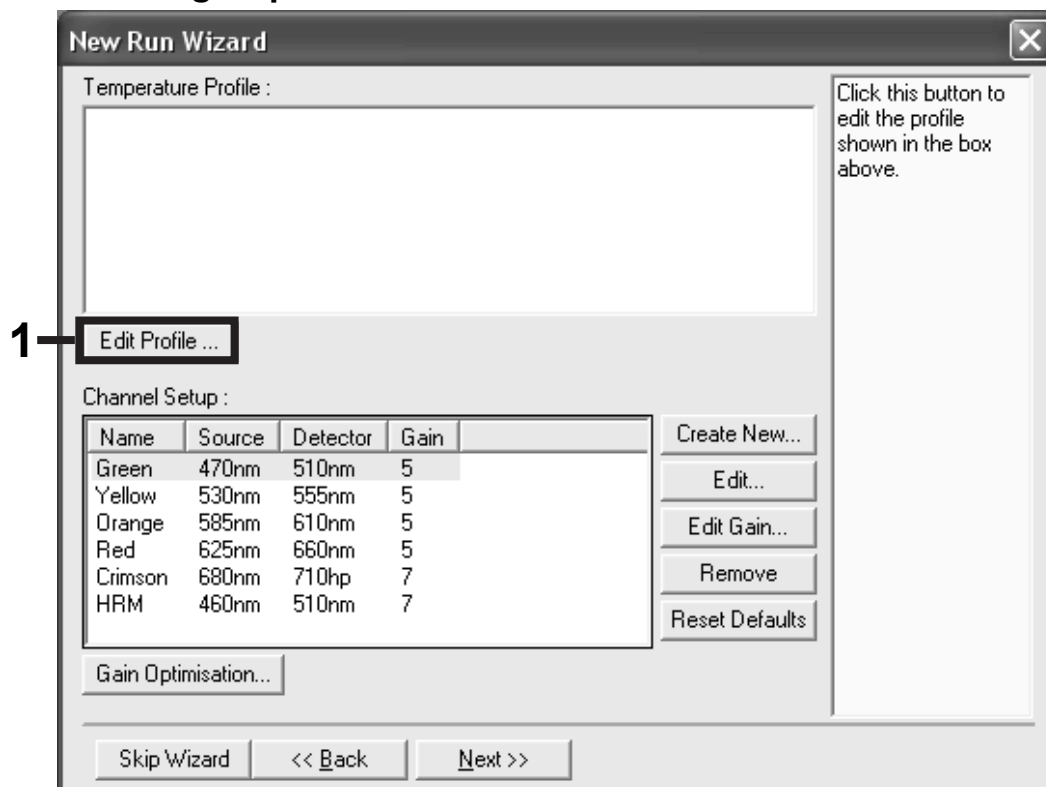

Figure 17. Editing the profile.
- Click the “Edit Profile” button in the “New Run Wizard” dialog box (Figure 17), and program the run parameters according to the following steps.